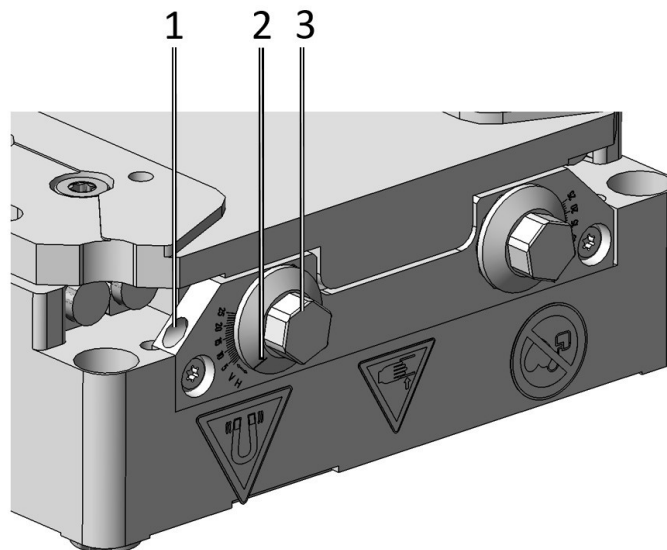

Figure 12: Items for adjustment of the weight force compensation
3. Loosen both pressure pieces (see Figure 12 on p. 27) using the hex key.
2. Loosen both pressure pieces (see Figure 12 on p. 27) using the hex key.